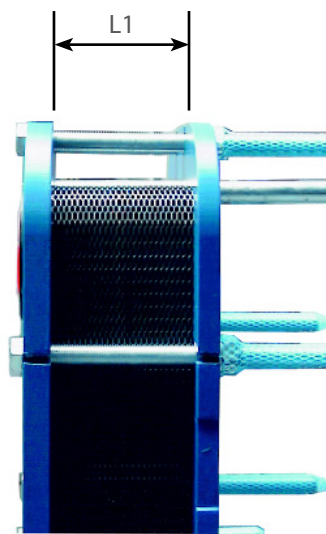

Fig 12
- Tightening is complete when the distance between the inside faces of both frame plates equals the "A" distance as shown on the contract drawing, see fig. 12.